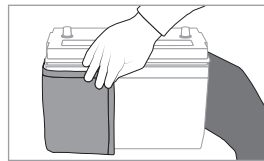

Figure 2. Wrapping battery.
3. Wrap battery as shown in Fig. 2. **NOTICE!** Maximum allowable overlap is 10 inches (25 cm). Wrap should not obstruct cord.